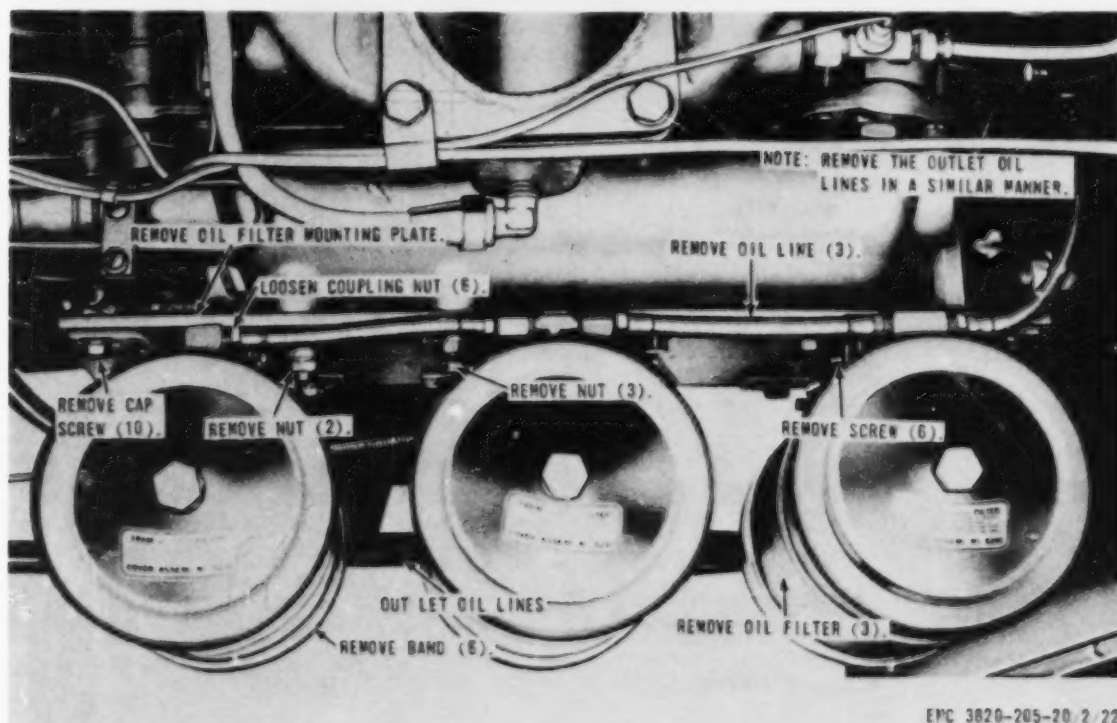

Figure 23. Oil filters and mounting bracket, removal and installation.
a. Removal. Remove the oil filter and mounting bracket from the engine as instructed on figure 23.
c. Installation. Install the oil filters and mounting bracket on the engine in reverse of the instructions on figure 23.